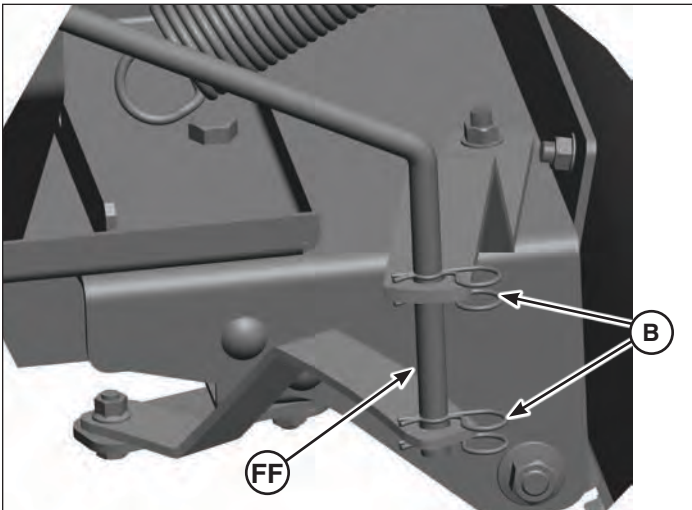

Figure 18
1. Attach the lower end of the front angle rod (**FF**) to the blade with hair pins (**B**, Figure 18).